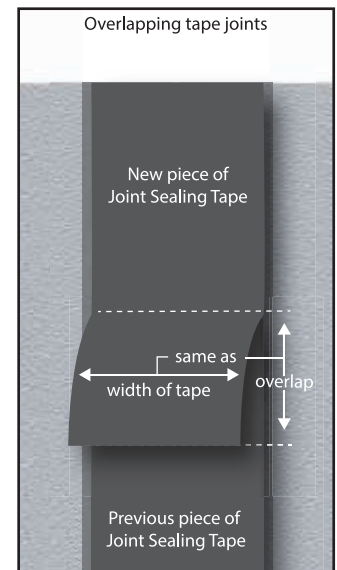

Fig 4.
4. Where the Premstrip External Joint Sealing Tape tape has to be applied in more than one piece to finish the application or where a single tape piece is long enough to overlap back onto itself, always overlap tape joints in a weatherboard fashion by the same distance as the width of the tape. **See Fig 4.**